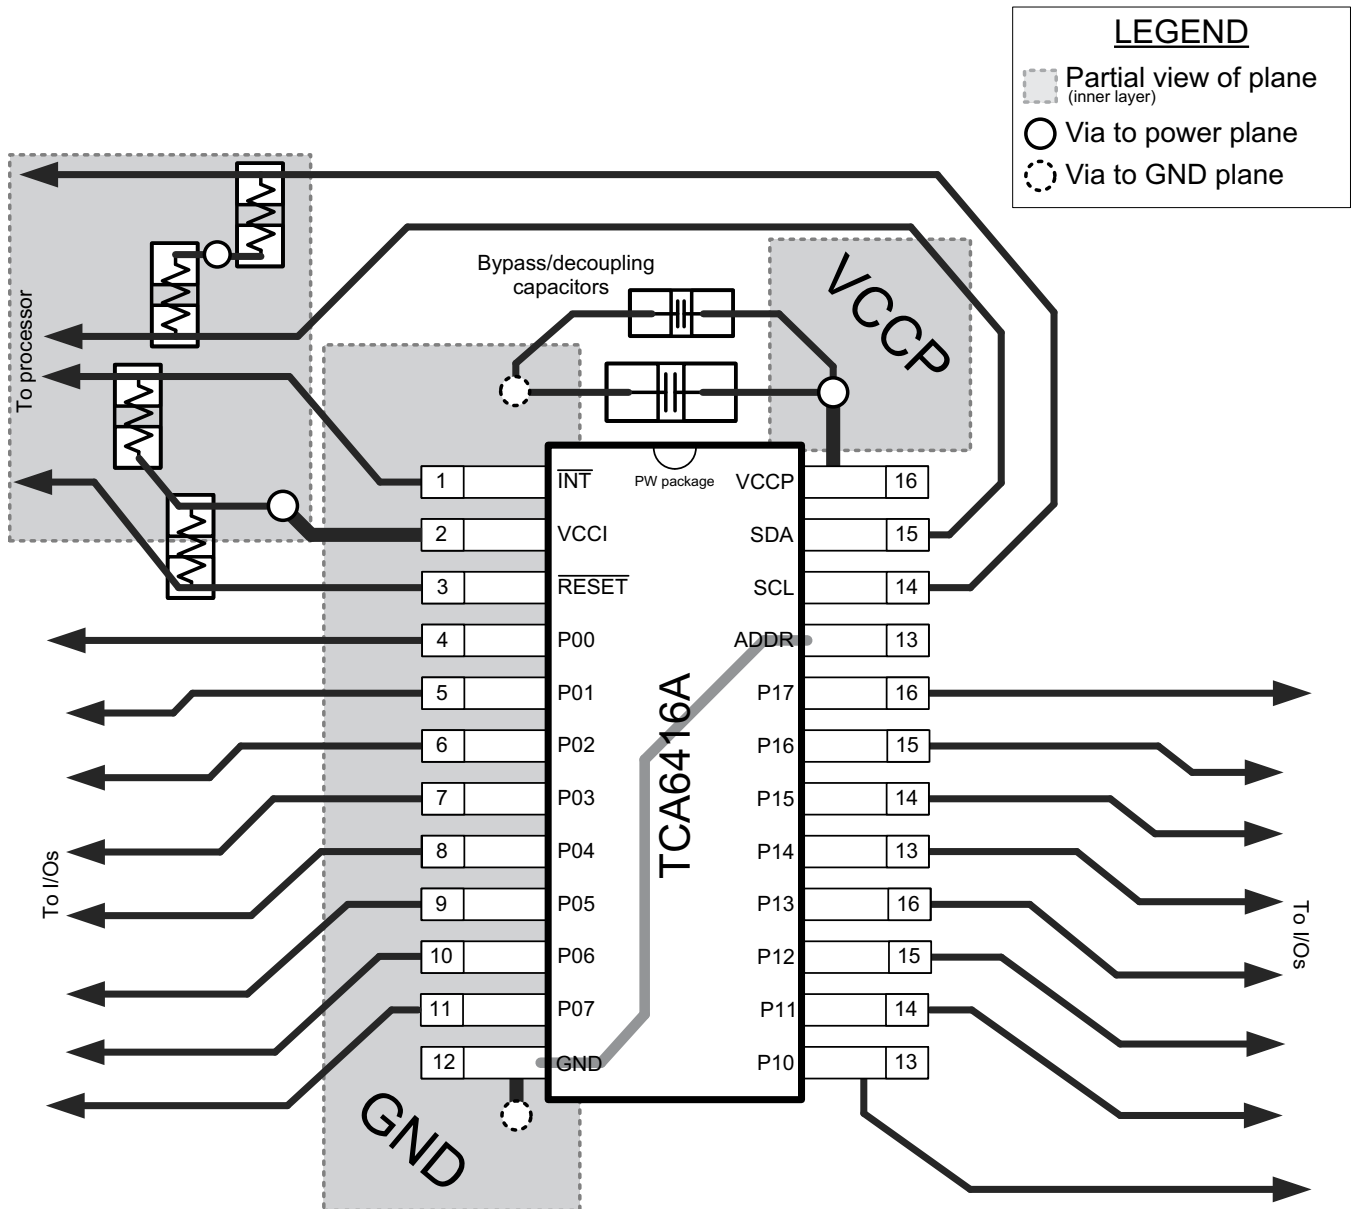

Figure 42. TCA6416A Layout
In all PCB layouts, it is a best practice to avoid right angles in signal traces, to fan out signal traces away from each other upon leaving the vicinity of an integrated circuit (IC), and to use thicker trace widths to carry higher amounts of current that commonly pass through power and ground traces. By-pass and de-coupling capacitors are commonly used to control the voltage on the VCCP pin, using a larger capacitor to provide additional power in the event of a short power supply glitch and a smaller capacitor to filter out high-frequency ripple. These capacitors should be placed as close to the TCA6416A as possible. These best practices are shown in Figure 42.
For the layout example provided in Figure 42, it would be possible to fabricate a PCB with only 2 layers by using the top layer for signal routing and the bottom layer as a split plane for power (V_{CCI} and V_{CCP}) and ground (GND). However, a 4 layer board is preferable for boards with higher density signal routing. On a 4 layer PCB, it is common to route signals on the top and bottom layer, dedicate one internal layer to a ground plane, and dedicate the other internal layer to a power plane. In a board layout using planes or split planes for power and ground, vias are placed directly next to the surface mount component pad which needs to attach to V_{CCI}, V_{CCP}, or GND and the via is connected electrically to the internal layer or the other side of the board. Vias are also used when a signal trace needs to be routed to the opposite side of the board, but this technique is not demonstrated in Figure 42.